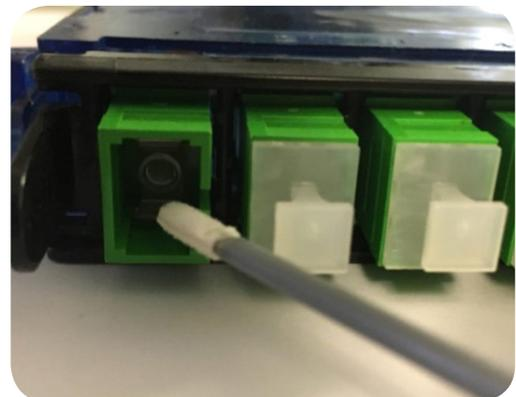

Figure 6
- Use additional swabs to clean inside the actual adapter. Moisten swab, like above, insert through hole and remove while twisting. **Figure 6**